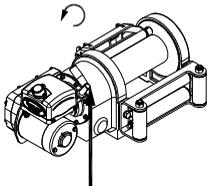

Fig6
- 1). Disengage the free-spool lever(Fig.6)